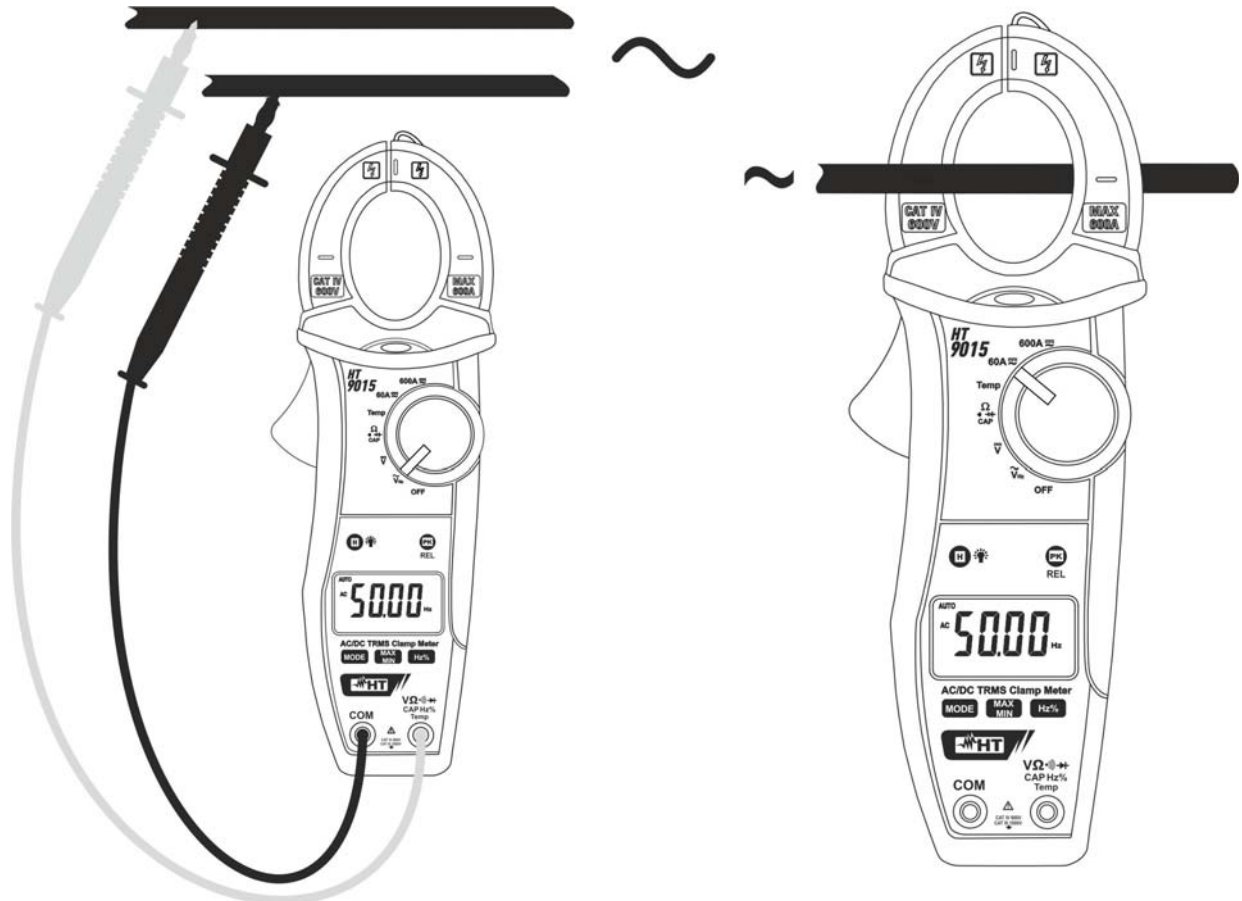

Fig. 10: Taking frequency and duty cycle measurements
3. Insert the red test lead plug into **VΩ-CAPHz%Temp** jack and the black test lead plug into **COM** jack (see Fig. 10 – left side) for frequency measurement with test leads. Open the clamp and put the conductor to be tested in the middle of the clamp jaw (see Fig. 10 – right side) for frequency measurements with jaws, then reading will be displayed. Bargraph is disabled in frequency and duty cycle test